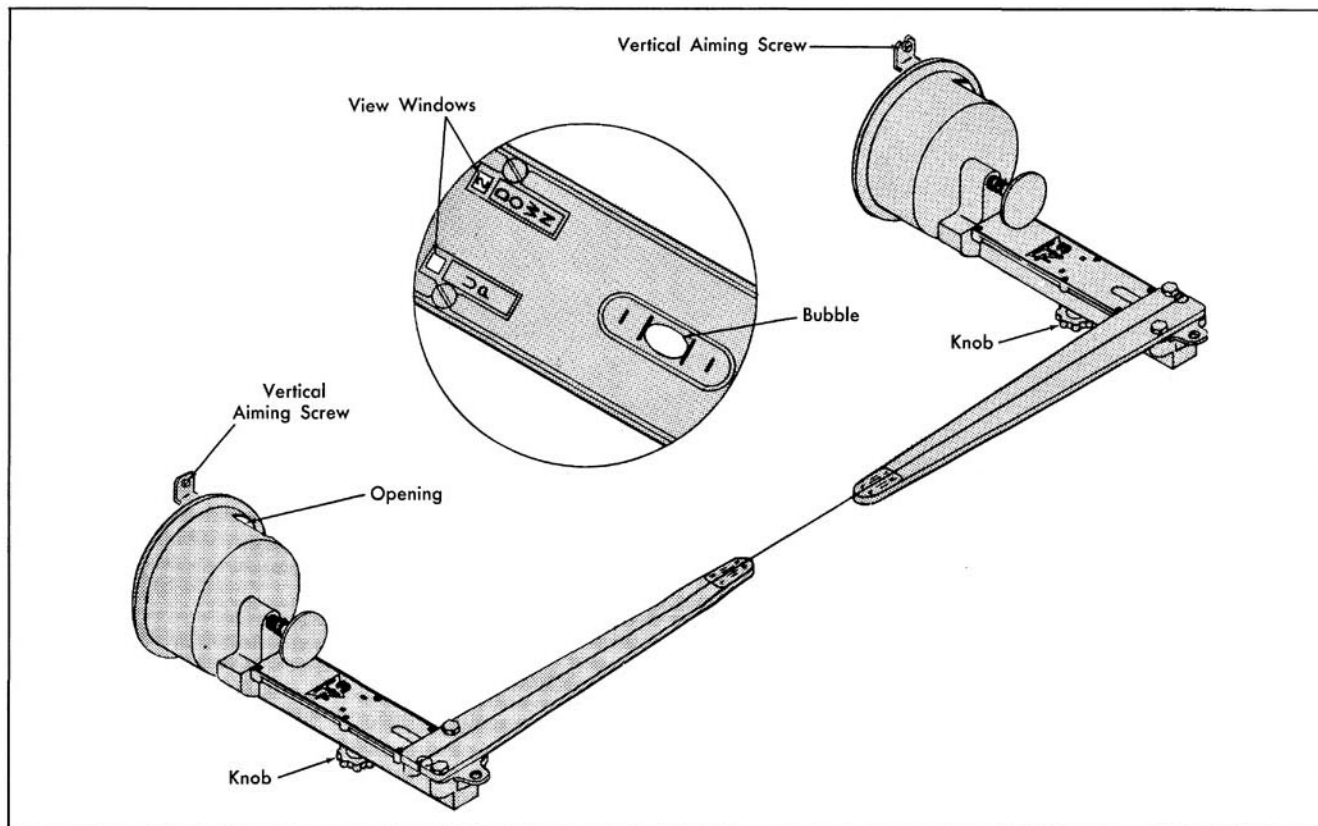

Fig. 13-93 Vertical Aim
- a. Loosen knob "O" on both aimers and move slide until numeral "2" appears in "down" view window. Tighten knobs. (Fig. 13-93)